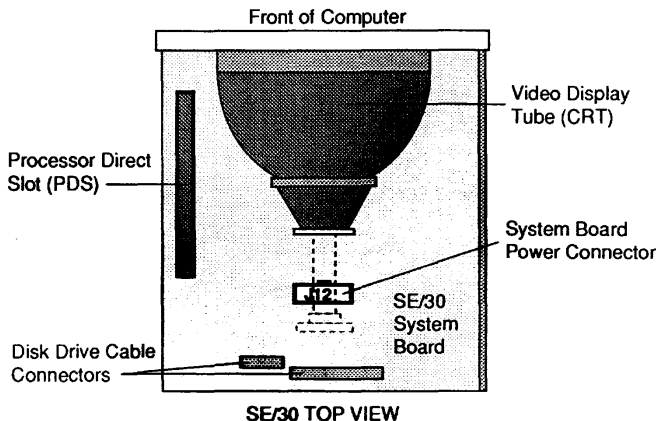

Figure 2-5
1. Insert cable-assembly plug J1 into connector J12 located on the SE/30 system board as shown in Figure 2-5. Make sure the locking tab on the plug